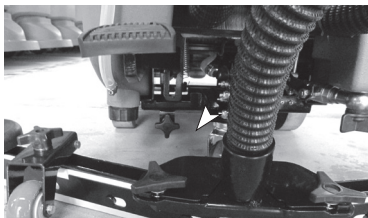

Figure 8
4. Connect vacuum hose to the squeegee assembly as is shown below (Figure 8).